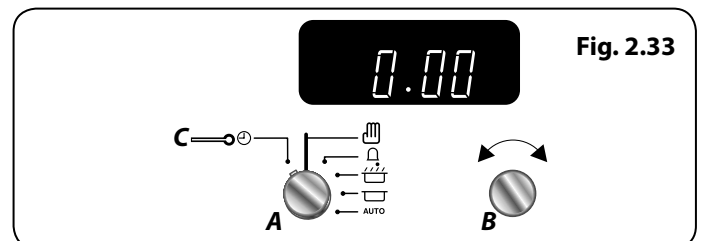

Fig. 2.33
To cancel any automatic settings turn the **Timer (A)** knob to the **Clock (C)** setting and release (**Fig. 2.33**).